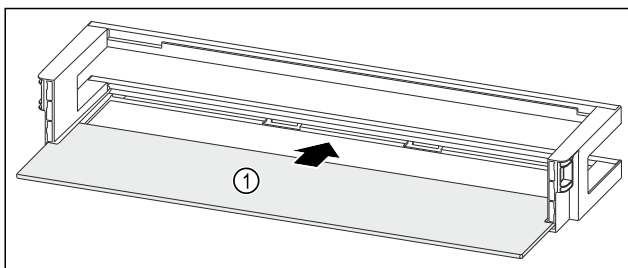

Fig. 240 Door rack with shelf
- ▶ Push the shelf Fig. 240 (1) into the side recesses.